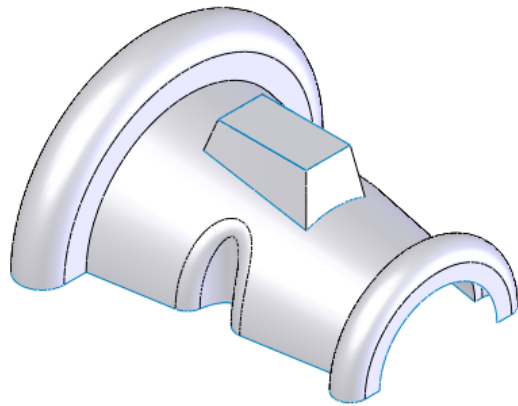

Figure 1-133 Resultant planar surface
- Choose the **OK** button from the **Planar Surface PropertyManager**; the planar surface is created. Figure 1-133 shows the resultant planar surface.